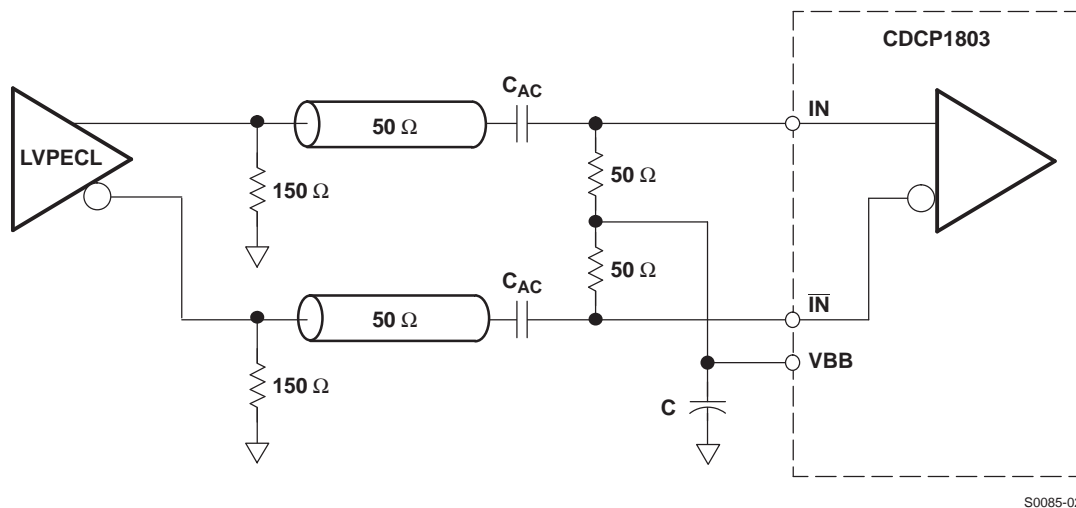

Figure 10. Recommended AC-Coupling LVPECL Receiver Input Termination
For optimized noise performance, it is recommended to properly terminate the PCB trace (transmission line). If a differential signal drives the CDCP1803, then a 100- $\Omega$  termination resistor is recommended to be placed as close as possible across the input terminals. An even better approach is to install  $2 \times 50\text{-}\Omega$  resistors, with the center tap connected to a capacitor (C) to terminate odd-mode noise and make up for transmission line mismatches. The VBB output can also be connected to the center tap to bias the input signal to  $(V_{DD} - 1.3\text{ V})$  (see Figure 10).